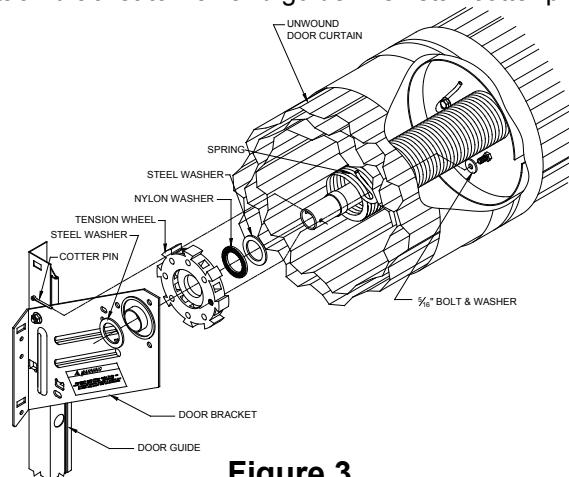

Figure 3.
5. Reinstall the spring/tensioner assembly according to Figure 3. 3. Attach bracket to wall and guide. Reinstall cotter pin.